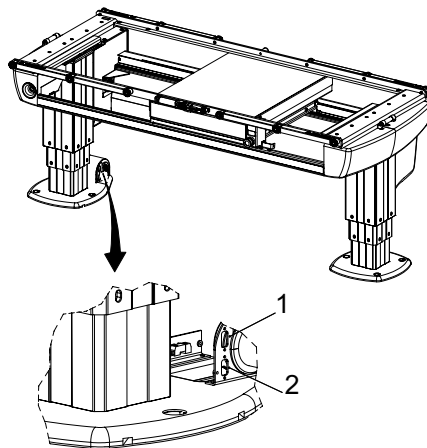

Fig. 4-58 Installation of foot control
- Install the foot control and connect the cable 2.4J01 or 2.4J02 according to **Fig. 4-58**.